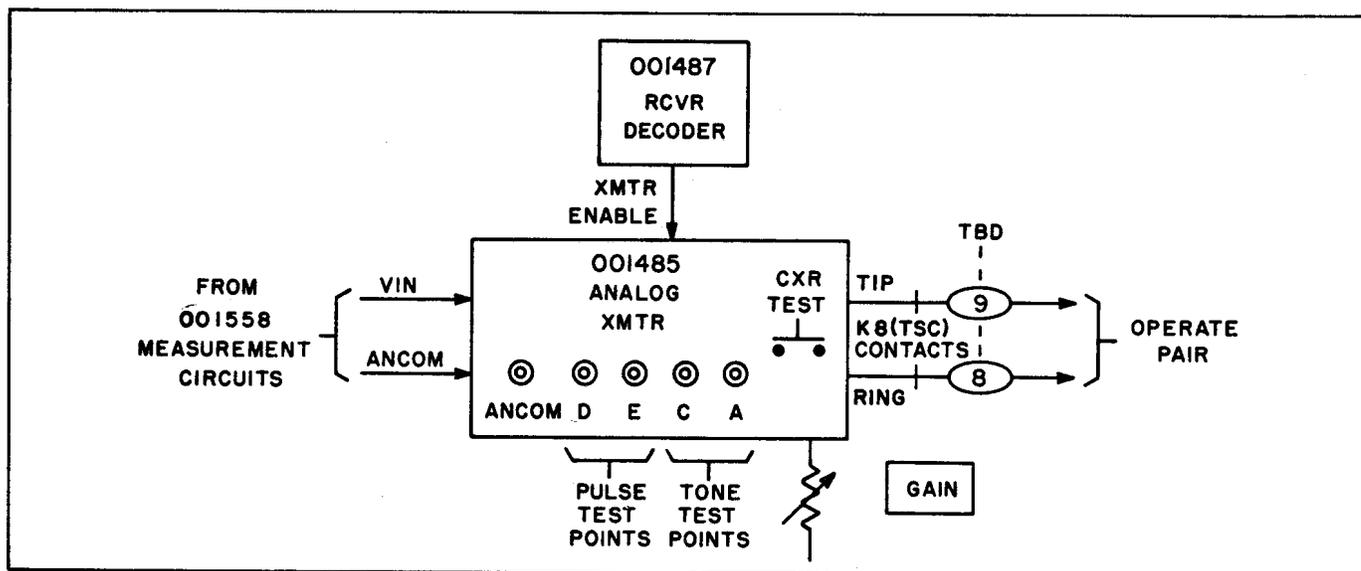

Figure 22 - Block Diagram of Components Comprising Remote Station's Analog Channel
3.13 ANALOG CHANNEL - The analog channel is used to send measured data to the master station for display on the meter. If it has been determined that the code channel is working satisfactorily, then the 001485 Analog Transmitter should be examined for possible failure. The procedure for troubleshooting the transmitter is as follows, and is referenced to Figure 22: